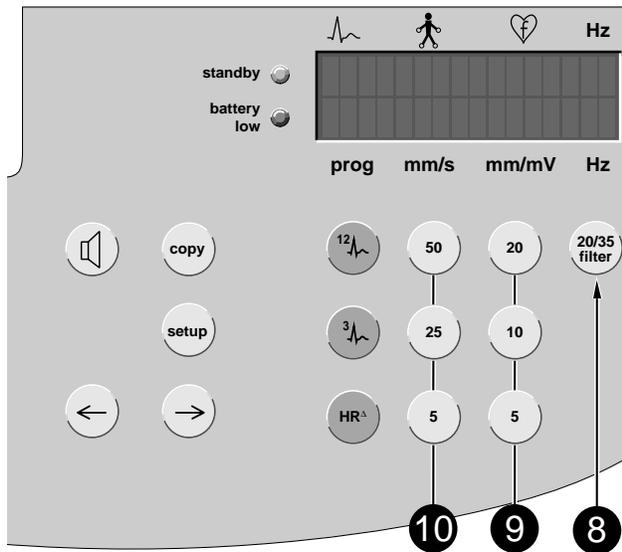

Figure 6-2. Controls and indicators
- a gain of 10 mm/mV - **g**, the setting can be changed any time with the gain keys - **9**, Figure 6-2
- a paper speed of 25 mm/s - **h**, the paper speed can be changed any time with the speed keys - **10**, Figure 6-2
- the muscle filter (35 Hz) is active - **f**, it can be disabled any time with the muscle filter key - **8**, Figure 6-2